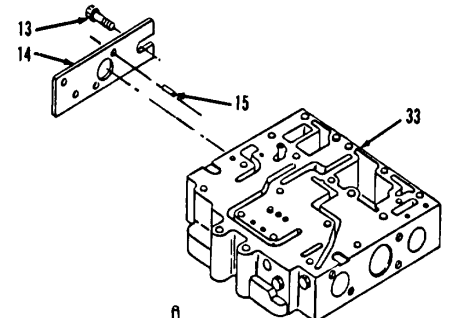

Figure 14-99.
6. Install spool (18) and spring (17).
7. Install new preformed packing (16) in cover (14).
8. Install pin (15), cover (14) and three bolts (13) in body (33, Figure 14-99). Tighten three bolts (13) to 19 to 25 ft-lb. torque.